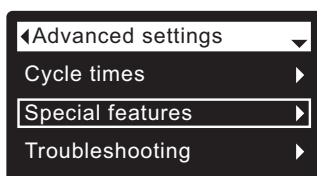

FIG. 84
3. Press the SELECT (O) button to display the Advanced settings menu (See Figure 84).